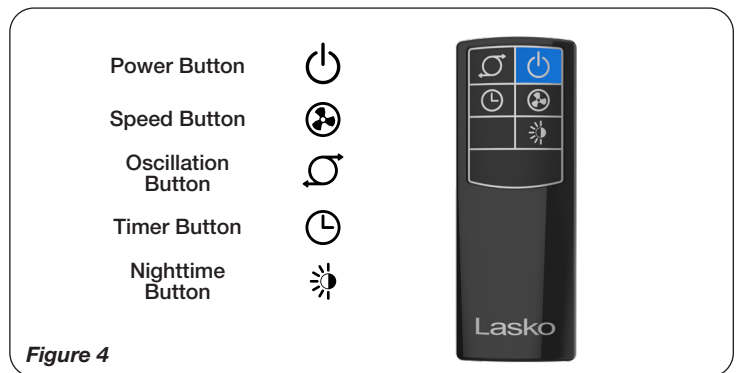

Figure 4
This Fan may be operated by the Manual Controls located on front of the unit (*Figure 3*) or by the Remote Control (*Figure 4*).
1. Install two “AAA” batteries (not included) as shown in *Figure 4*.